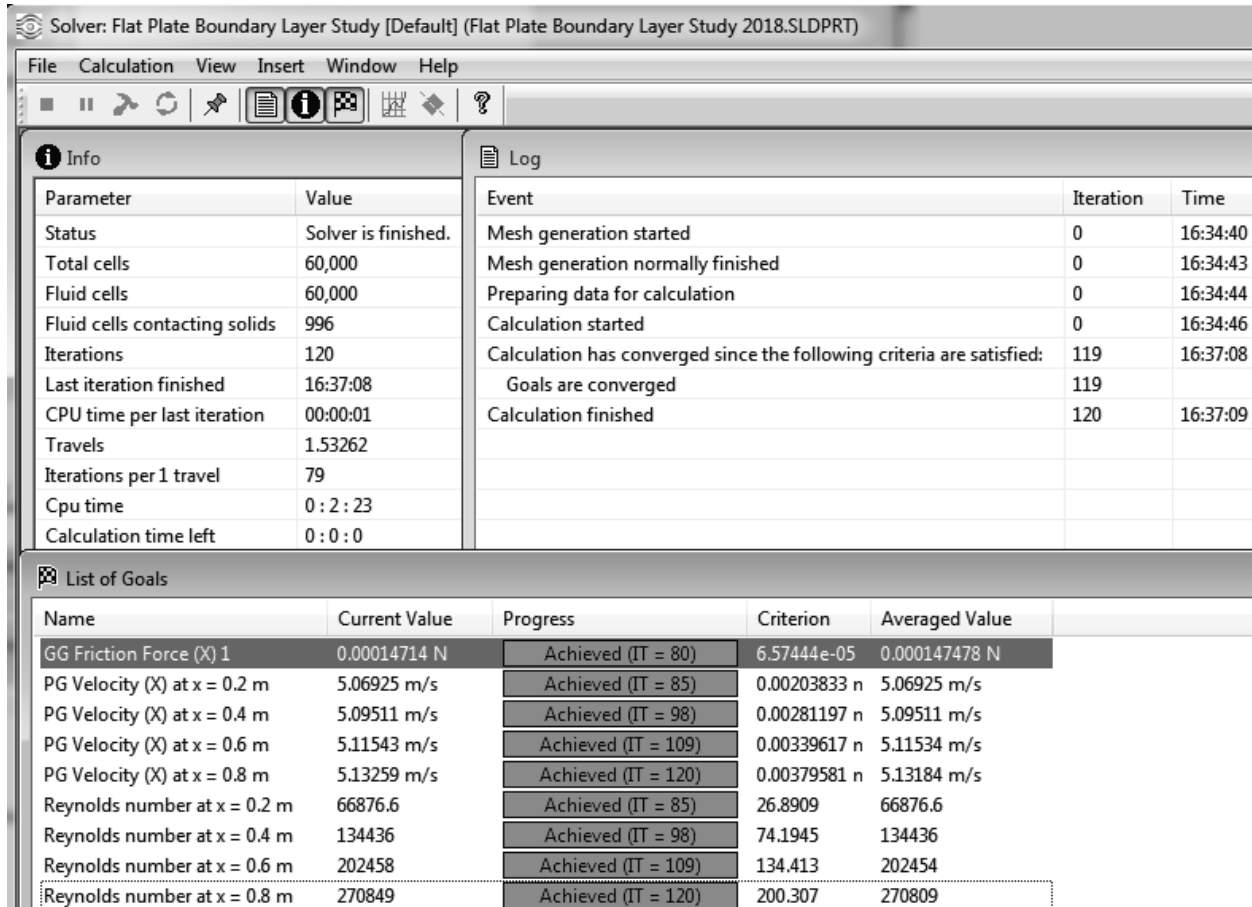
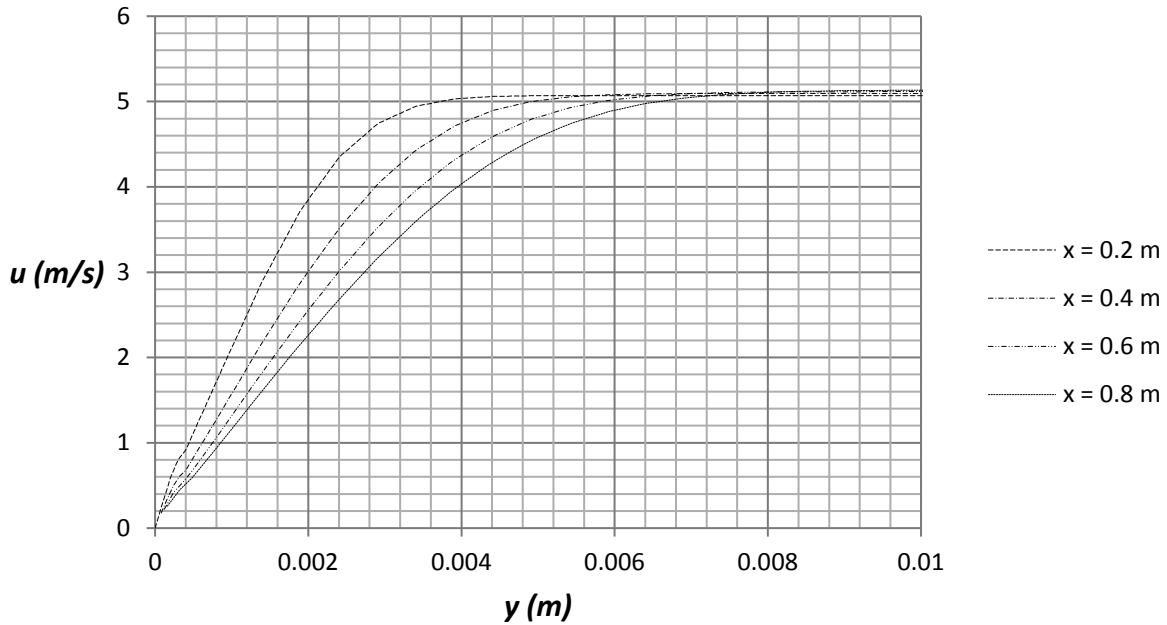
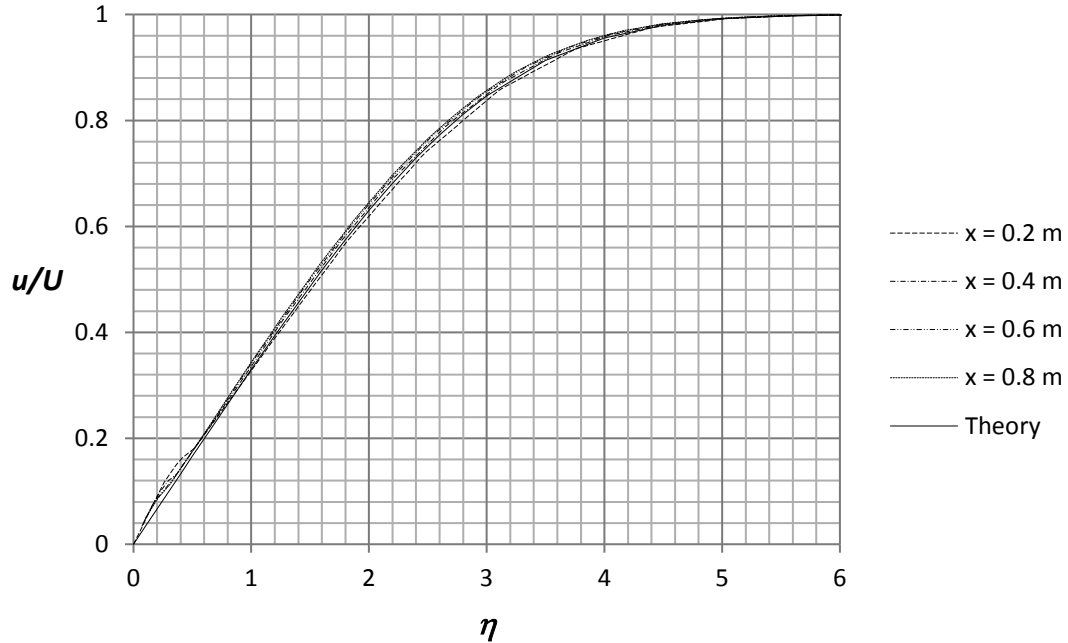
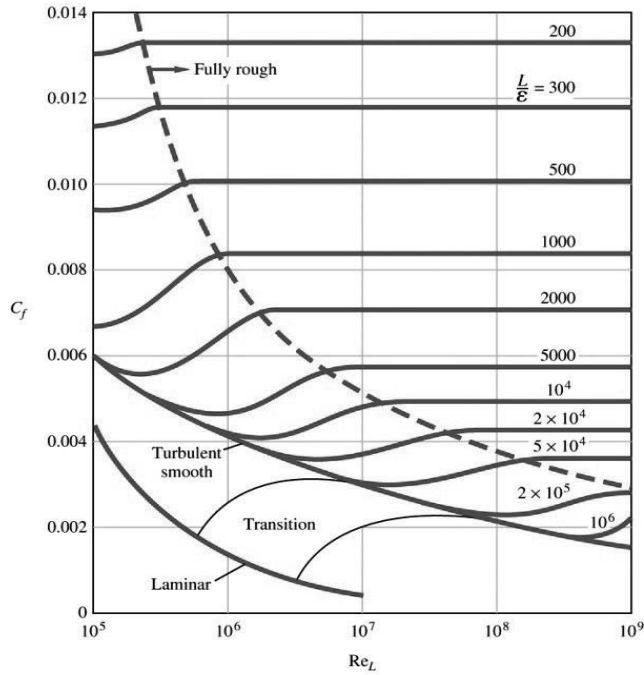

Figure 2.22c) Solver window
Figure 2.24c) Boundary layer velocity profiles on a flat plate at different streamwise positions
Figure 2.25a) Velocity profiles in comparison with the theoretical Blasius profile (full line)
Figure E3. Average friction coefficient for flow over smooth and rough flat plates, White (1999)
Select **Module1** in the **Modules** folder under **VBAProject (graph 2.24c).xism**. Select **Run>>Run Macro** from the menu of the **MVB for Applications** window. Click on the **Run** button in the **Macros** window. Figure 2.24c) will become available in **Excel** showing the streamwise velocity component  $u$  ( $m/s$ ) versus wall normal coordinate  $y$  ( $m$ ). Close the **XY Plot** window and the **graph 2.24c)** window in **Excel**. Exit the **XY Plot** window in **SOLIDWORKS Flow Simulation** and rename the inserted xy-plot in the **Flow Simulation analysis tree** to **Laminar Velocity Boundary Layer**.
26. Place the file “**graph 2.25a**” on the desktop. Repeat step 24 to plot Figure 2.25a). Rename the xy-plot to **Comparison with Blasius Profile**.
We see in figure 2.25a) that all profiles at different streamwise positions collapse on the same Blasius curve when we use the boundary layer similarity coordinate.
From the data of figure 2.24c) we can see that the thickness of the laminar boundary layer is close to 3.80 mm at  $Re_x = 66,877$  corresponding to  $x = 0.2$  m. The free stream velocity at  $x = 0.2$  m is  $U = 5.069$  m/s, see figure 2.22c) for list of goals in solver window, and 99% of this value is  $U_\delta = 5.018$  m/s. The boundary layer thickness  $\delta = 3.83$  mm from Flow Simulation was found by
finding the  $y$  position corresponding to the  $U_\delta$  velocity. This value for  $\delta$  at  $x = 0.2$  m and corresponding values further downstream at different  $x$  locations are available in the Plot Data for Figure 2.25a). The different values of the boundary layer thickness can be compared with values obtained using equation (2.3). In Table 2.1 are comparisons shown between boundary layer thickness from Flow Simulation and theory corresponding to the four different Reynolds numbers shown in figure 2.24c). The Reynolds number varies between  $Re_x = 66,877$  at  $x = 0.2$  m and  $Re_x = 270,849$  at  $x = 0.8$  m.
The average friction coefficient over the whole plate  $C_f$  is not a function of the surface roughness for the laminar boundary layer but a function of the Reynolds number based on the length of the plate  $Re_L$ ; see figure E3 in Exercise 8 at the end of this chapter. This friction coefficient can be determined in Flow Simulation by using the final value of the global goal, the  $X$ -component of the Shear Force  $F_f$ , see figure 2.22c), and dividing it by the dynamic pressure times the area  $A$  in the  $X$ - $Z$  plane of the computational domain related to the flat plate.
The average friction coefficient over the whole plate  $C_f$  is a function of the surface roughness for the turbulent boundary layer and also a function of the Reynolds number based on the length of the plate  $Re_L$ ; see figure E3 in Exercise 8. This friction coefficient can be determined in Flow Simulation by using the final value of the global goal, the X-component of the Shear Force  $F_f$  and dividing it by the dynamic pressure times the area  $A$  in the X-Z plane of the computational domain related to the flat plate; see figure 2.28a) for the size of the computational domain.
2.8 Use different fluids, surface roughness, free stream velocities and length of the computational domain to compare the average friction coefficient over the entire flat plate with figure E3.